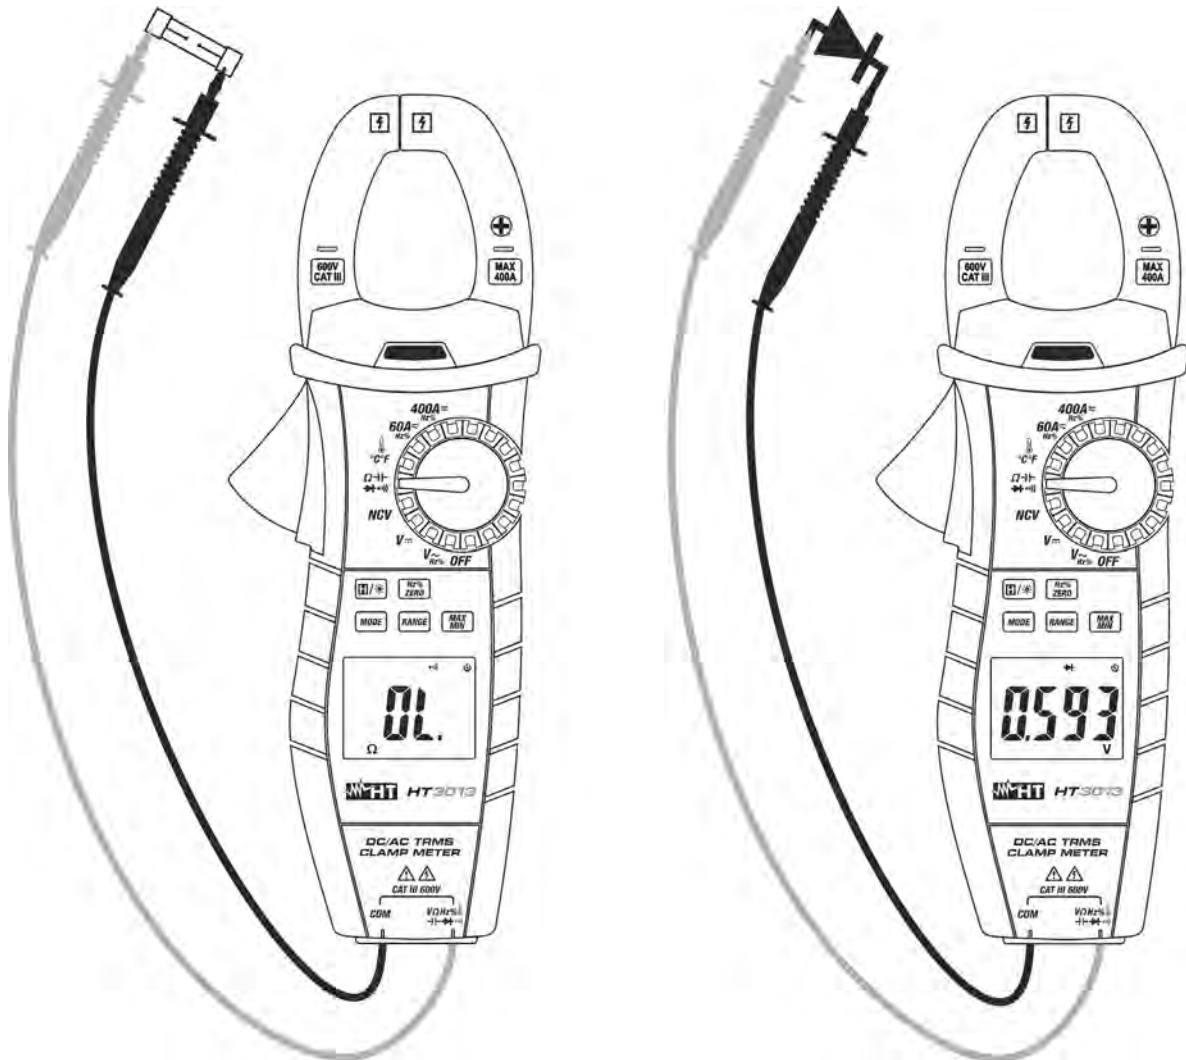

Fig. 8: Use of the instrument for continuity test and diode test
3. Insert the red cable into input terminal $\text{V}\Omega\text{Hz}\% \rightarrow \text{diode symbol}$ and the black cable into input terminal **COM** and carry out the continuity test of the object to be measured (see Fig. 8– left side). A buzzer sounds when the measured value of resistance is lower than 30Ω
5. Connect the red lead to the anode of the diode and the black lead to the cathode in case direct polarization measurement is carried out (see Fig. 8 – right side). Invert the position of the leads in case reverse polarization measurement is carried out.